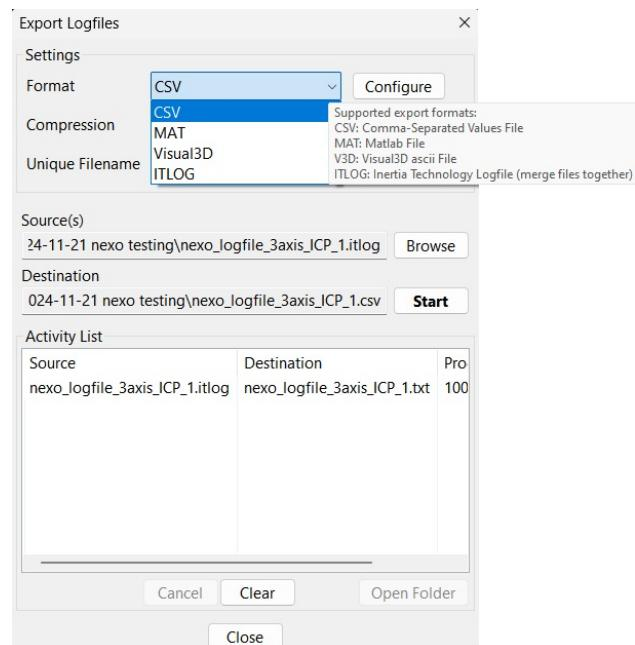

Figure 33: File format options
- **Format:** The file format to export the *itlog* file to (Figure 33). Settings specific to the file format can be modified via the *Configure* button (see the next sections for available options).